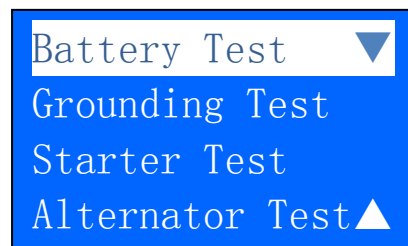

Figure 50
- After you have made your choice, selecting either "New: Clear Memory" or "Continue...Test" will proceed to the display below: (Fig. 50)